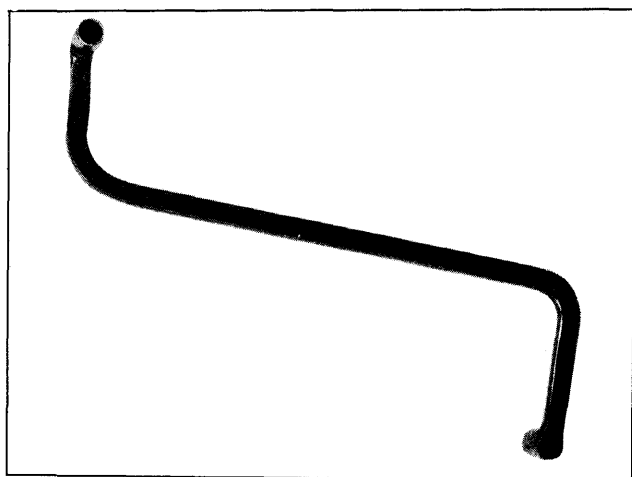

Fig. 6-56—Front Door Hinge Tool J-22810 - "A" Styles
- b. On "A" body styles, use tool J 22810 - 1/2" wrench (Fig. 6-56).